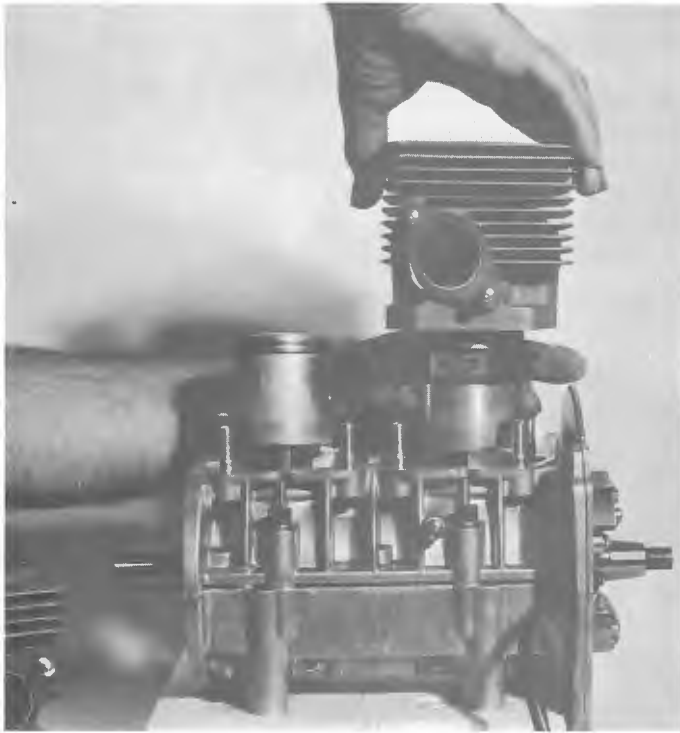

FIGURE 5-4 INSTALLING CYLINDERS
5.2.3 Cylinders (See Figure 5-4)